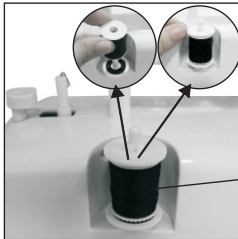

Fig.11
1. Put a spool of thread on spool pin. (Fig. 11)